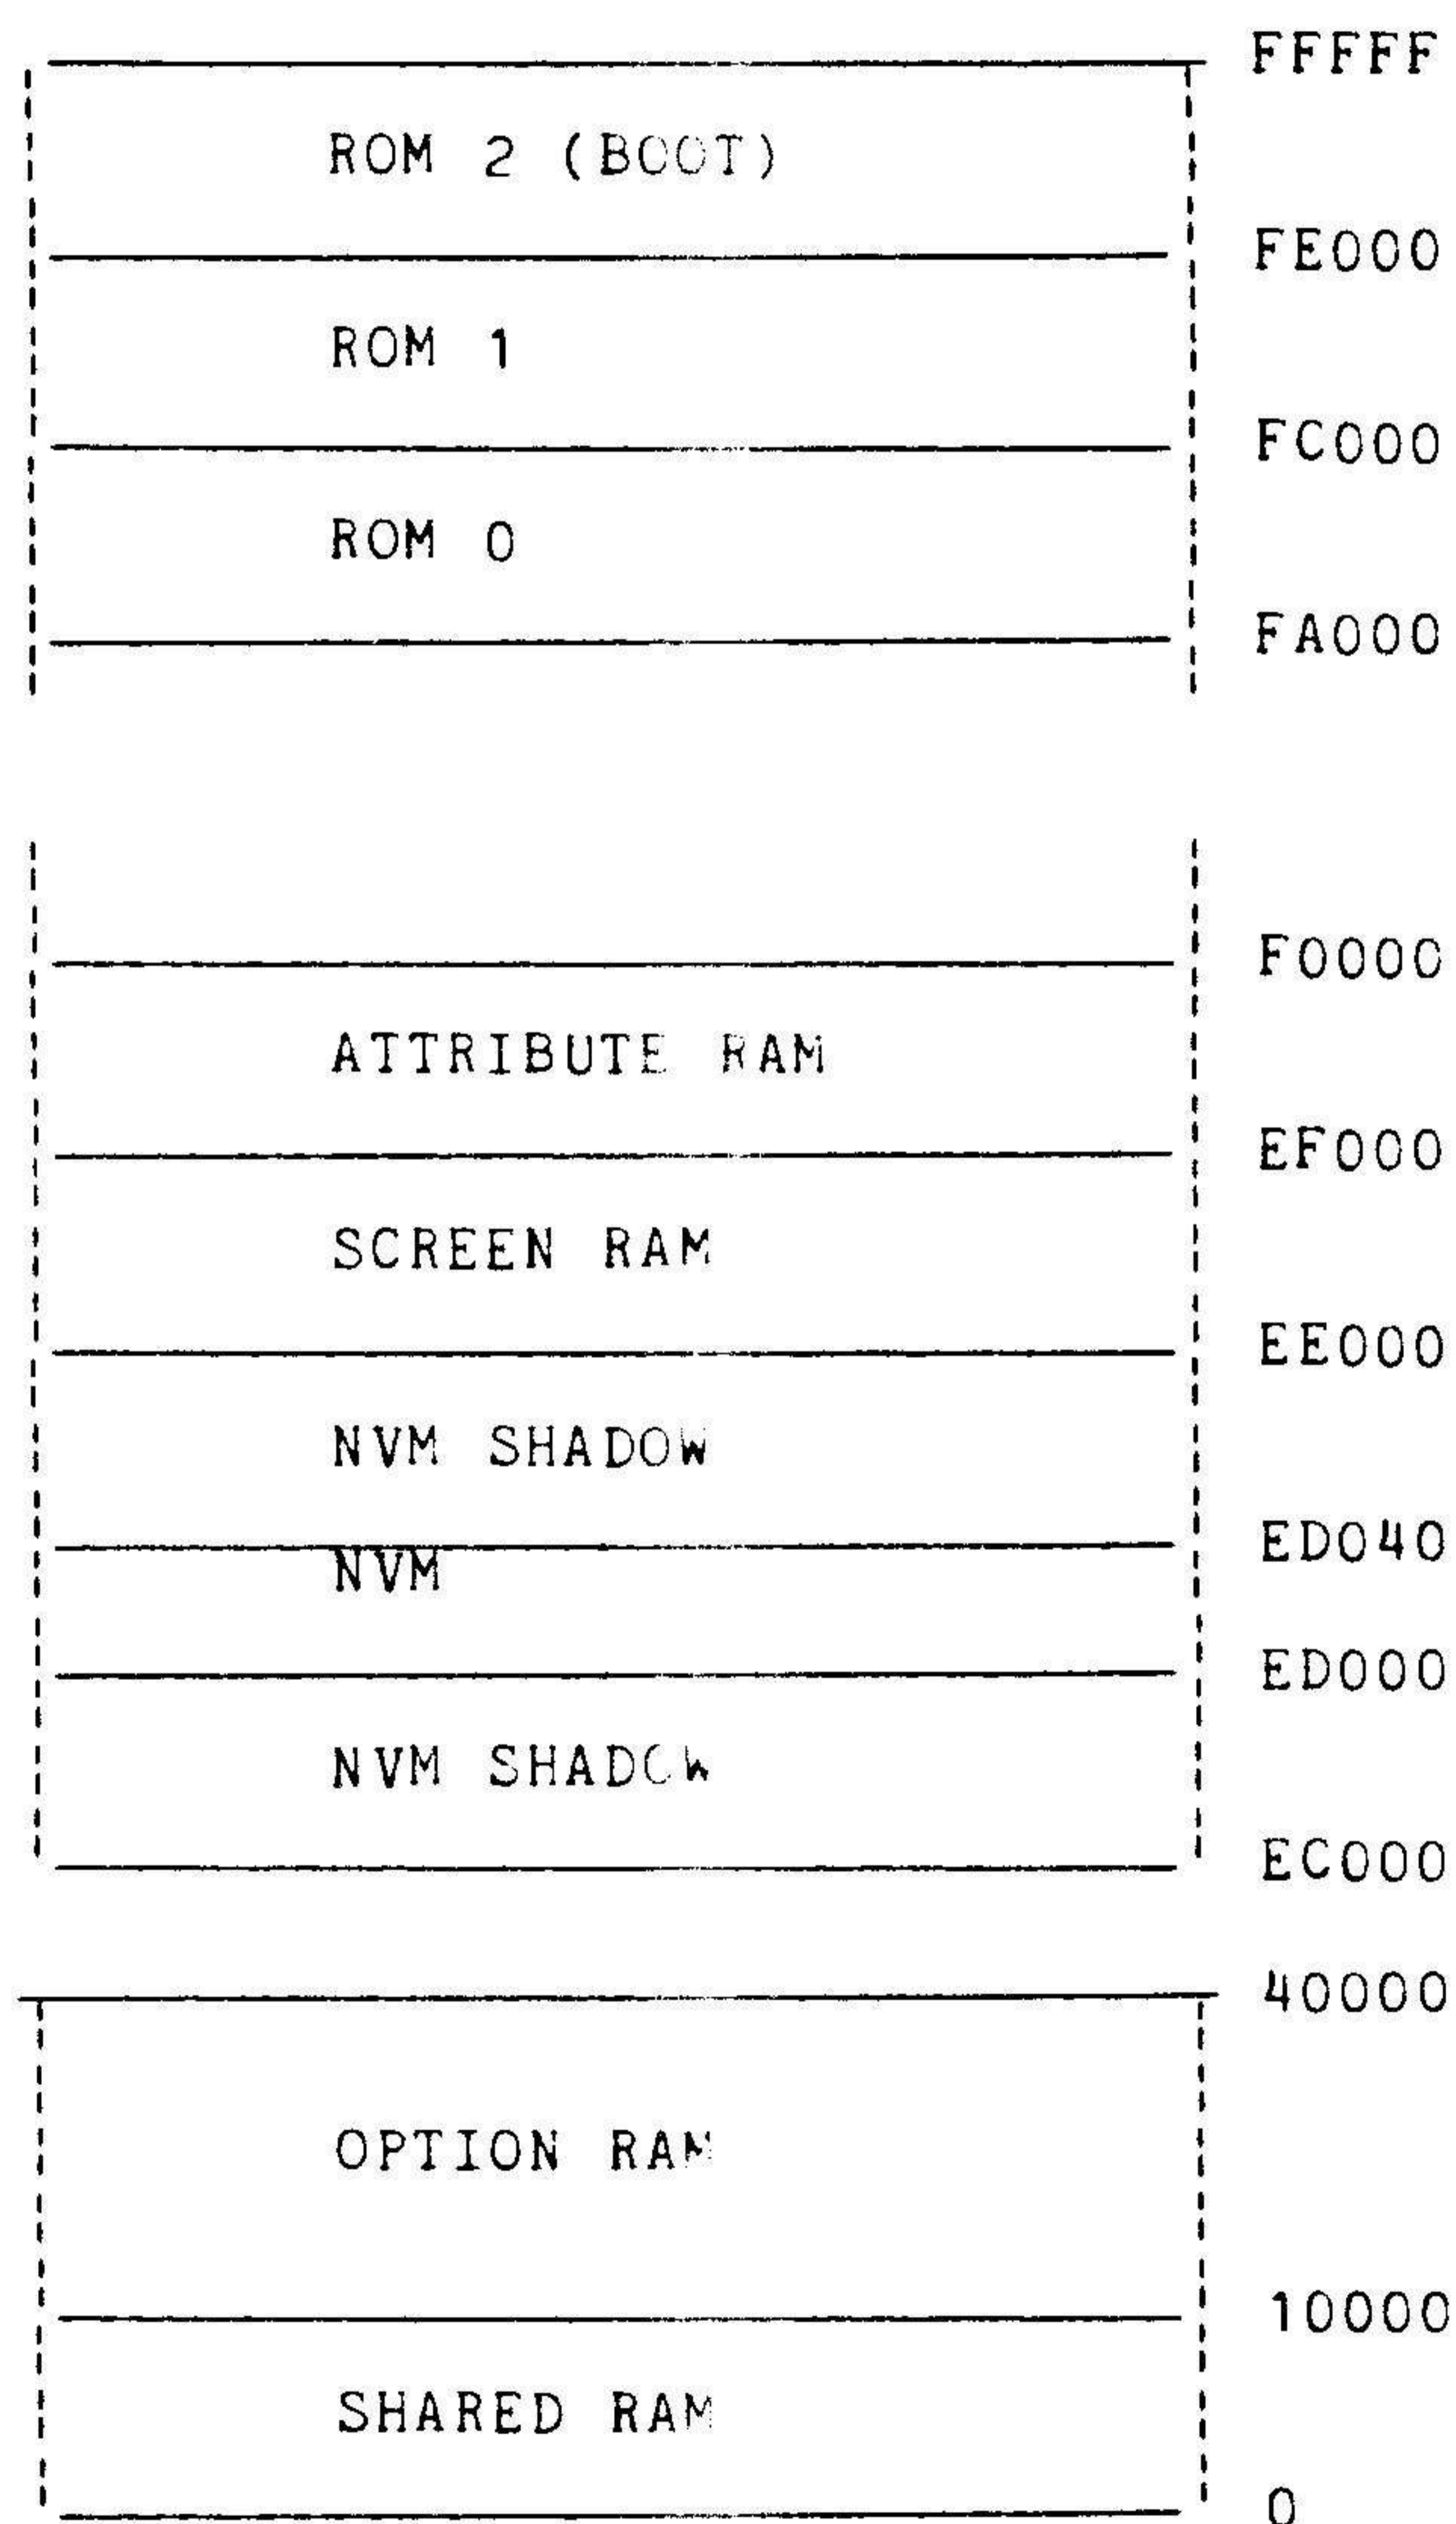

Figure 2. 8088 Memory Map
3.1.3.7 8088 Memory Map - The 8088 memory map is shown in Figure 2.